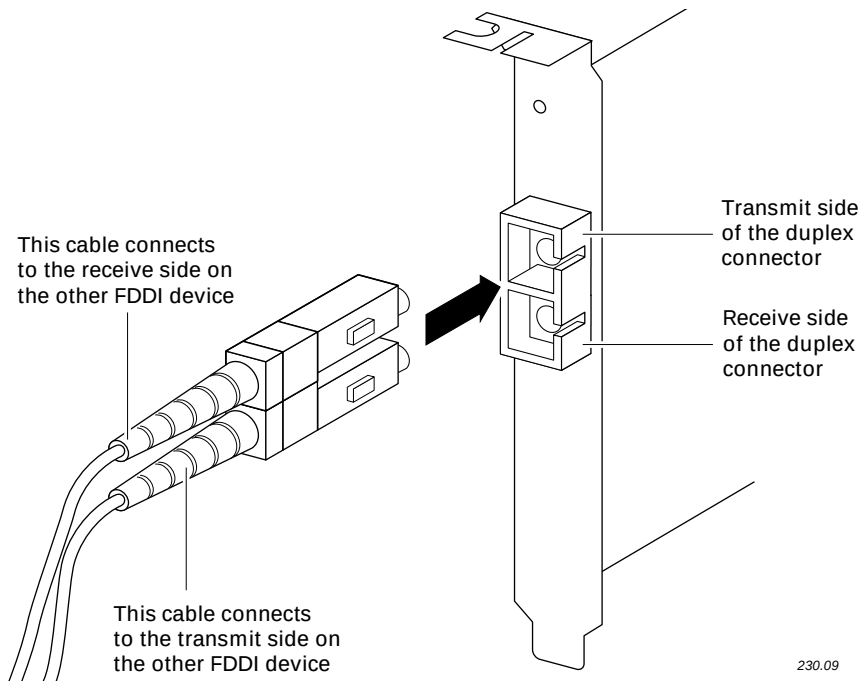

**Figure 2-5. Attaching a duplex fiber-optic cable to a single-attachment FDDI-fiber card**
- The single-attachment FDDI-fiber card has a duplex SC connector (see Figure 2-5). (The exact shape of the connectors on the duplex